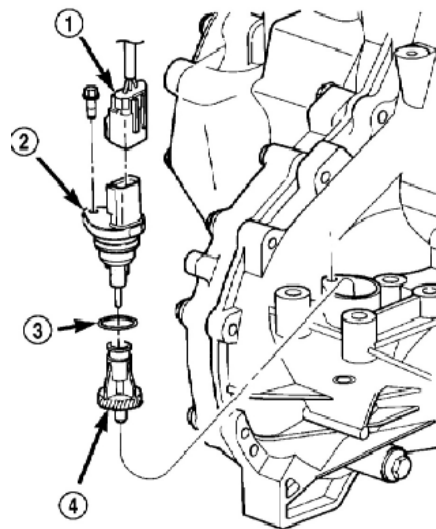

Figure 3-27 Vehicle speed sensor joint
(9) Remove vehicle speed sensor joint (Figure 3-27).